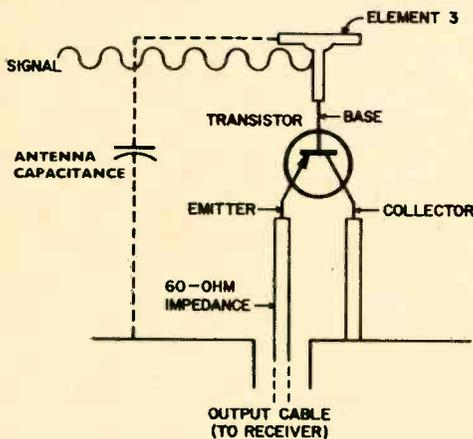

FIG. 3—SIA ANTENNA
The SIA (Fig. 3) uses the transistor (or several transistors) in an attempt to solve these problems. A number of configurations are possible. Although Meinke's description of their operation is obscure, the effect may be thought of as amplifying the meager amount of capacitance or inductance that exists in the antenna's vastly shortened elements (rather than the current, as in the electronic antenna designs).
In Fig. 3, the two elements at the bottom are connected to the output cable—the emitter element to the hot lead and the collector element to the ground lead. The capacitance between element 3 and the antenna's ground is indicated by the dotted line. As the transistor base is driven by signal currents the transistor amplifies the current flowing from collector to emitter. But the result is a multiplication of the effective antenna capacitance, reducing resonant fre-
1) Audio Oscillator. As you can see in Fig. 3 it's just a short step from the basic board set up to the first operating circuit. If you're using new resistors and capacitors, don't cut the leads. Just bend the last 1/4-in. of wire so it slips into the clip. Wherever you have to make a connection (say, between a transistor's emitter lead and the positive bus) use short lengths of hookup wire.